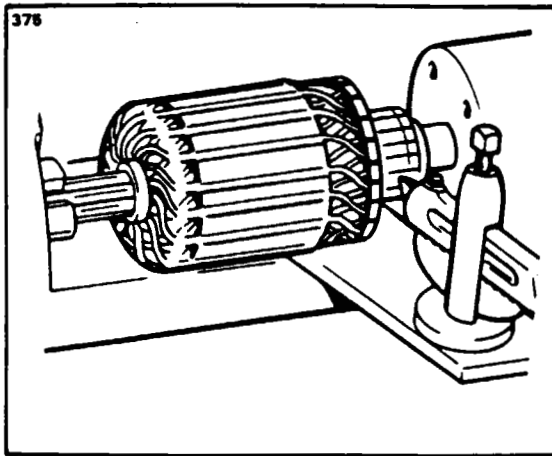

Figure 11-39. Turning Starting Motor Commutator
a. Check the commutator for uneven wear, excessive glazing or evidence of excessive arcing. If only slightly dirty, glazed or discolored, the commutator can be cleaned with 00 or 000 sandpaper. If the commutator is rough or worn, it should be turned in a lathe. Refer to Figure 11-39. The armature shaft should be inspected for rough bearing surfaces and rough or damaged splines.